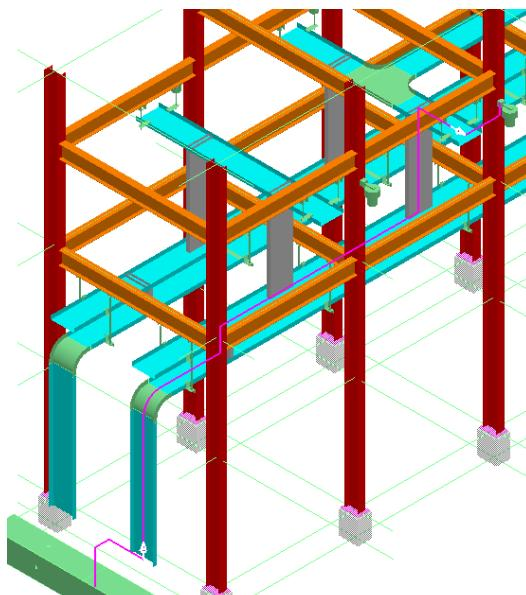

Figure 42: Proposed Contiguous Cable Path
22. The SP3D displays the proposed contiguous cable path for the cable, as shown in the highlighted section of Figure 42.